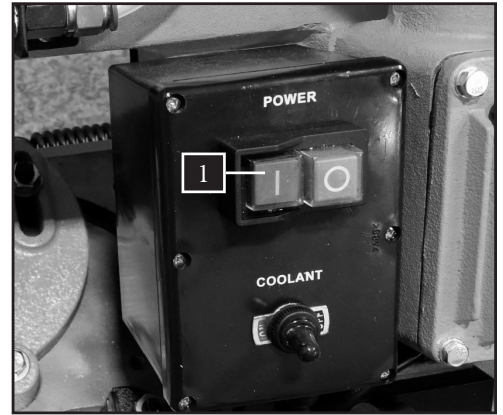

Fig. 23
Press the green button (I) (Fig. 23 - 1) to turn ON the motor. Wait for the blade to reach full speed before allowing the blade to enter the workpiece.